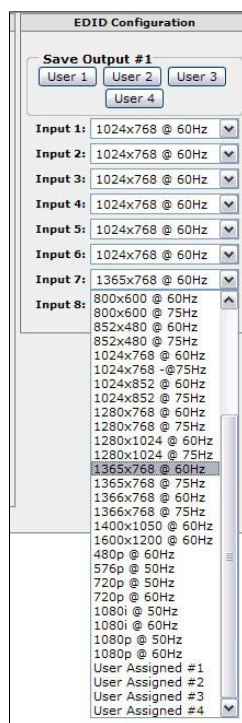

Figure 6-17 — Click in an input field to see the drop down list
2. Click the applicable **Input number** and scroll down to the resolution and refresh rate desired (see figure 6-17, input 7).